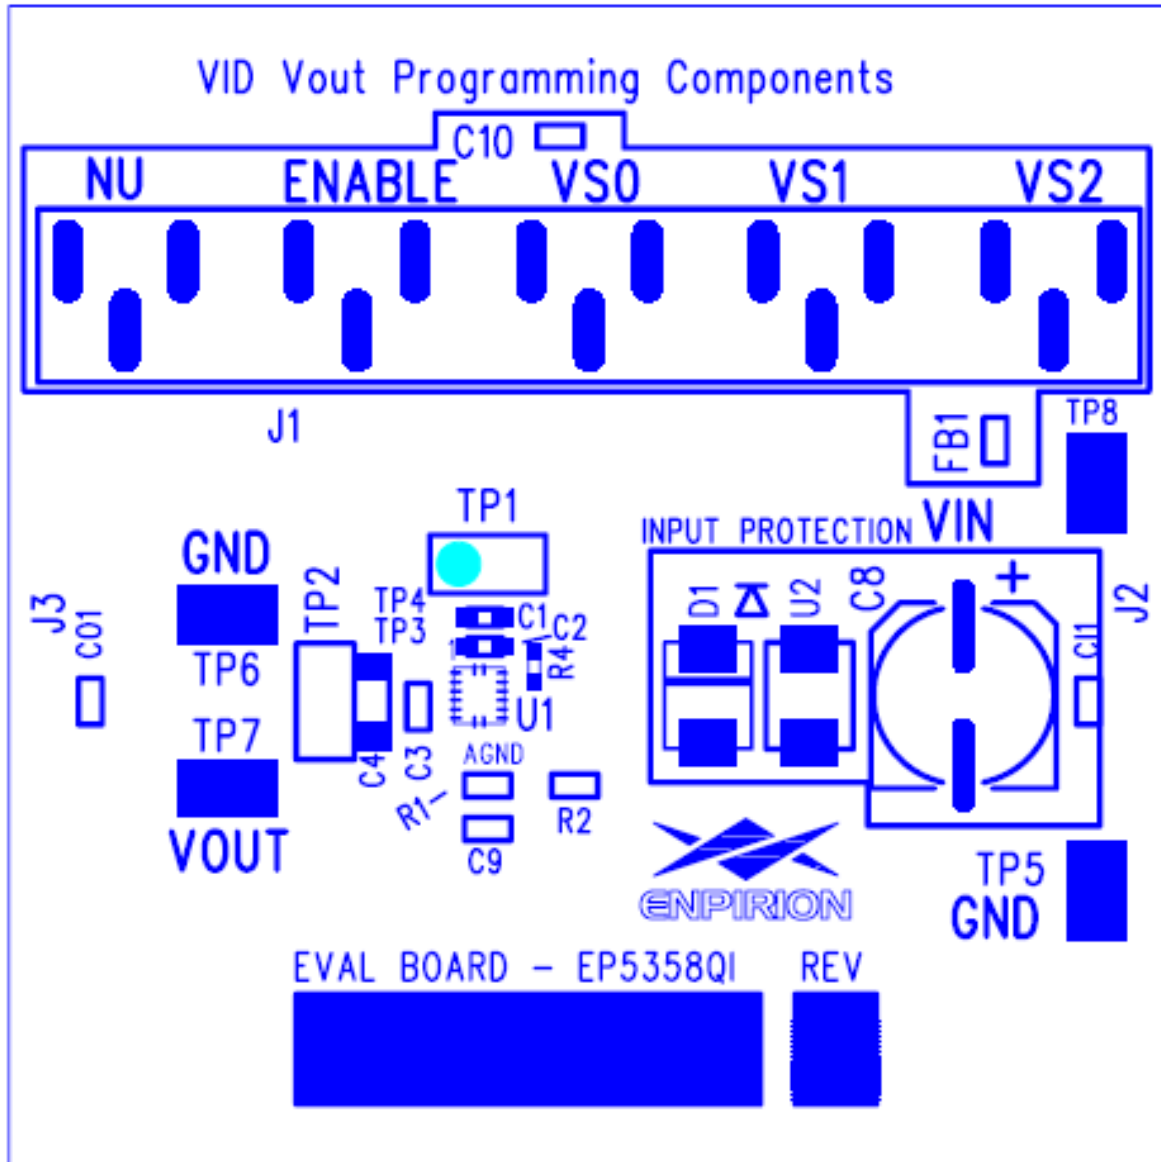

Figure 1. Evaluation Board silk screen.
This application note describes how to test the EP5358xUI (EP5358LUI, EP5358HUI) converters using Altera's Enpirion 2.5mmx2.25mm Module EVAL BOARD shown in Fig. 1. In addition to this document you will also need the device datasheet for a thorough evaluation of the power converter module.
**STEP 2:** Connect a power supply to the input test points, TP8 (VIN) and TP5 (GND) as indicated in Figure 1. The same test points can also be used to measure the input voltage.
**STEP 4:** Connect the load to the output connectors TP7 (VOUT) and TP6 (GND), as indicated in Figure 1. The same test points are also used to measure the DC output voltage.